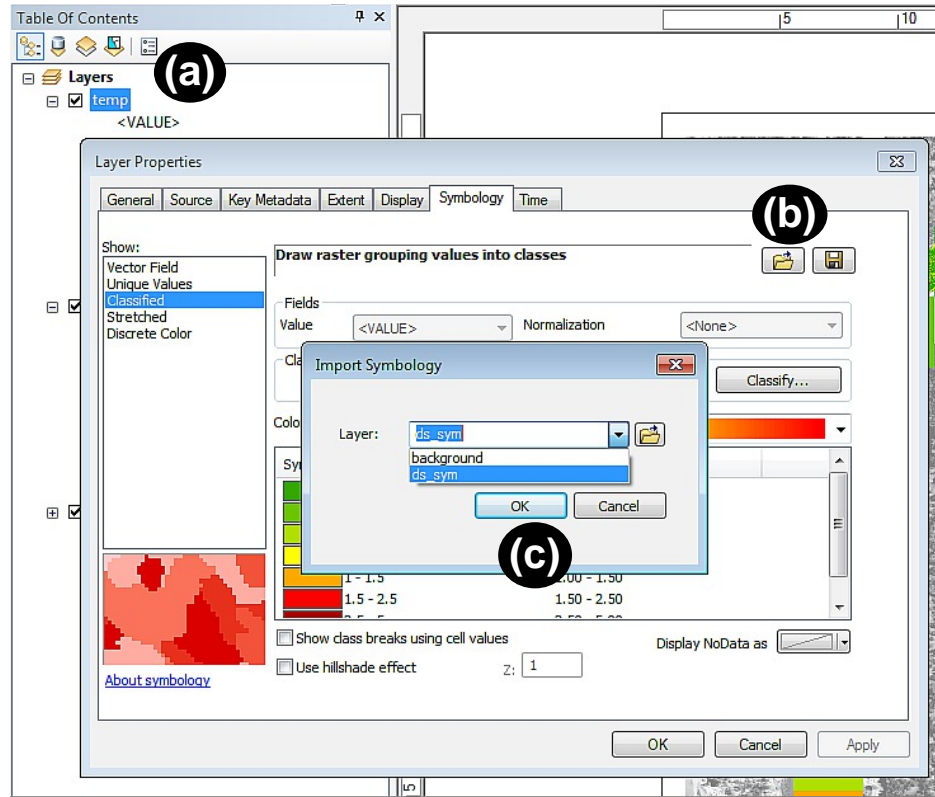

Figure 6: Steps a) to c) for adapting the symbology in ArcGIS Desktop according to the descriptions in the text.
3. Open each layout file (`lf_...mxd` and `ds_...mxd`) in *ArcMap-Desktop* and use the following procedure to apply the symbology (see illustration in Fig. 6):